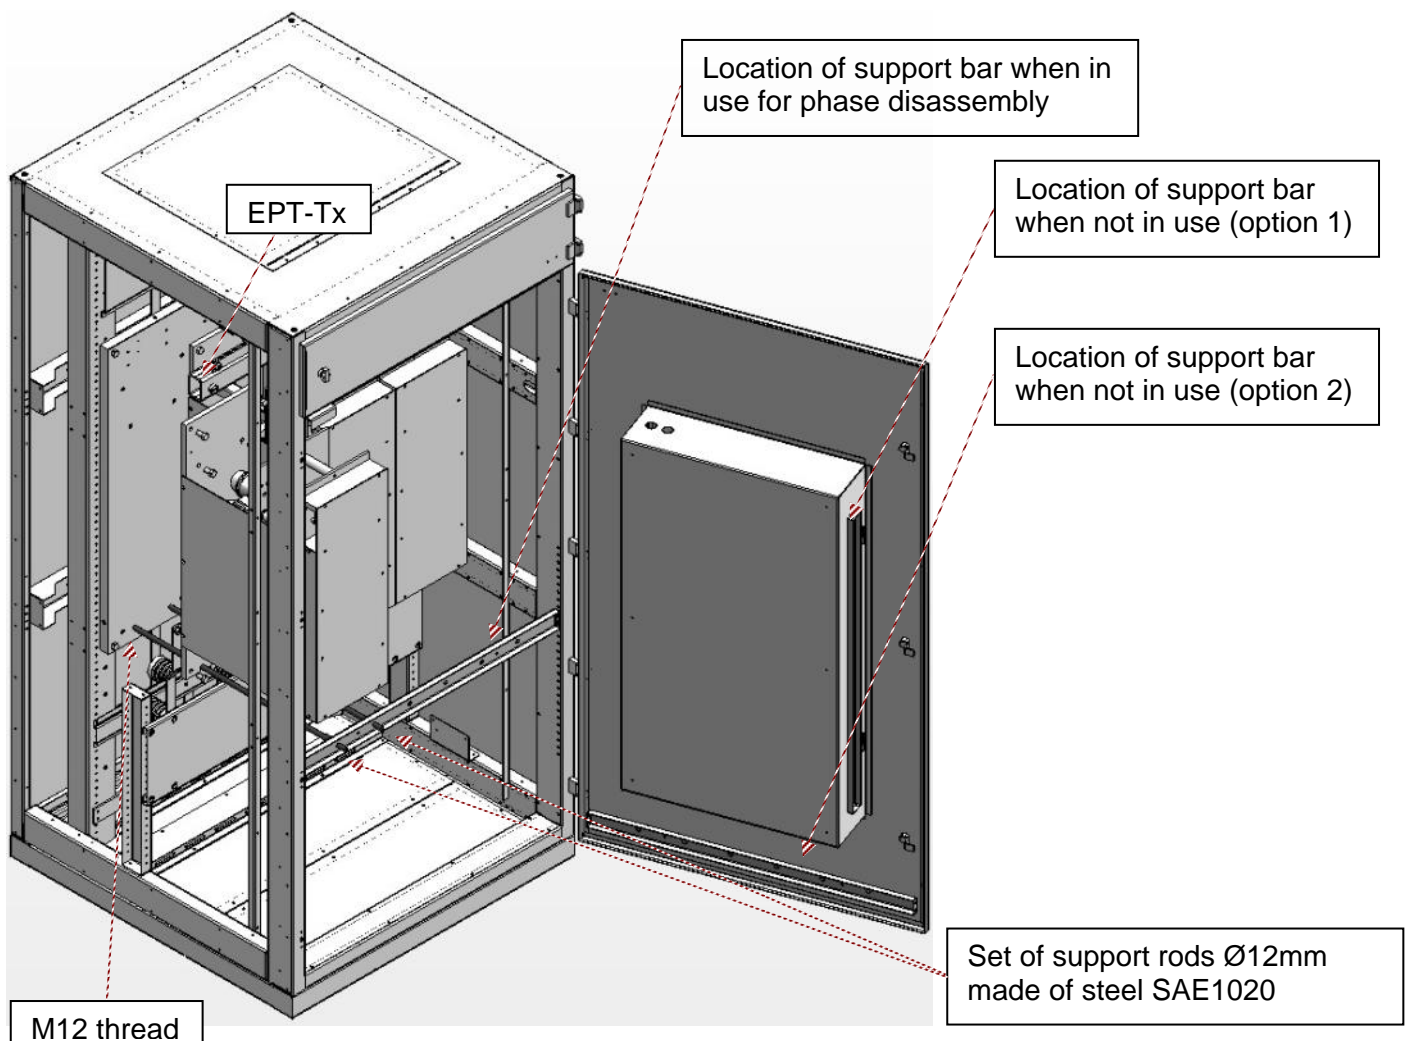

Figure 14 – HRVS-DN up to 6.6kV - Phase Disassembly Accessories
- (1) Do not mount the HRVS-DN near heat sources.
- (2) Cabinet internal temperature should not exceed 50°C. Refer to section 6.2 page 41 for heat dissipation of the soft starter during operation.
- (3) Protect the HRVS-DN from dust and corrosive atmospheres.
- (4) In order to perform low voltage test, certain provisions should be applied:
- c. To allow phase disassembly, provide for the following assembly precautions (Refer to *Figure 14*) for: